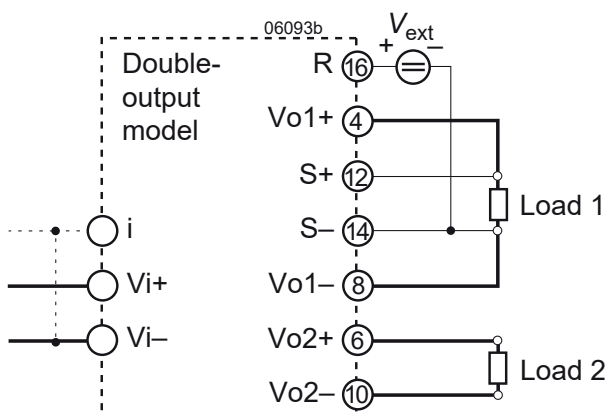

Fig. 20
a) Adjustment by means of an external control voltage  $V_{\text{ext}}$  between R (pin 16) and S– (pin 14); see fig. 20.